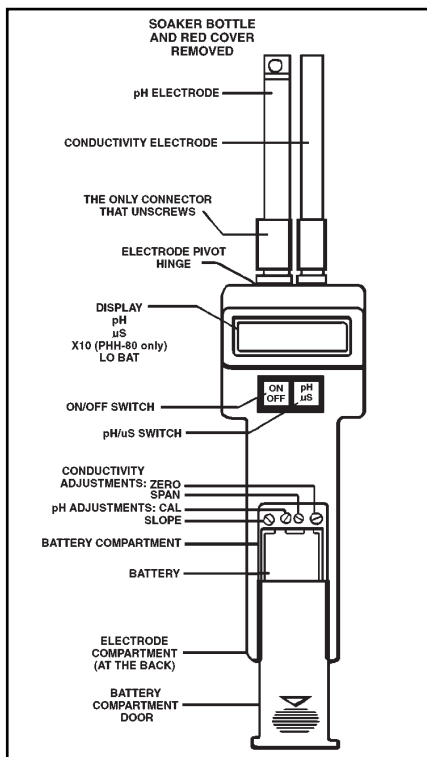

Figure 1. Parts of the Meter
3. Slide back the battery compartment door to the first stop, exposing the adjustment potentiometers (pots). Refer to Figure 1.